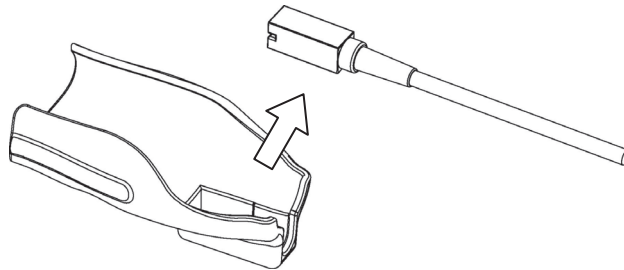

Fig. 10 How to release the Magnetic sensor from the Magnetic sensor attachment
- 2) Release the magnetic sensor from the magnetic sensor attachment as shown in Fig. 10.